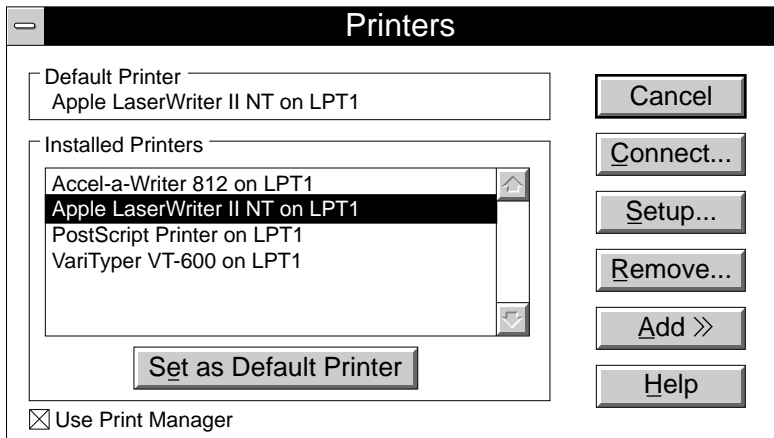

Fig. 6.15 The Printers Window
5. Double-click the Printers icon to open that window (fig. 6.15).
7. Click Connect... (fig. 6.15). A window displays showing the available interfaces.